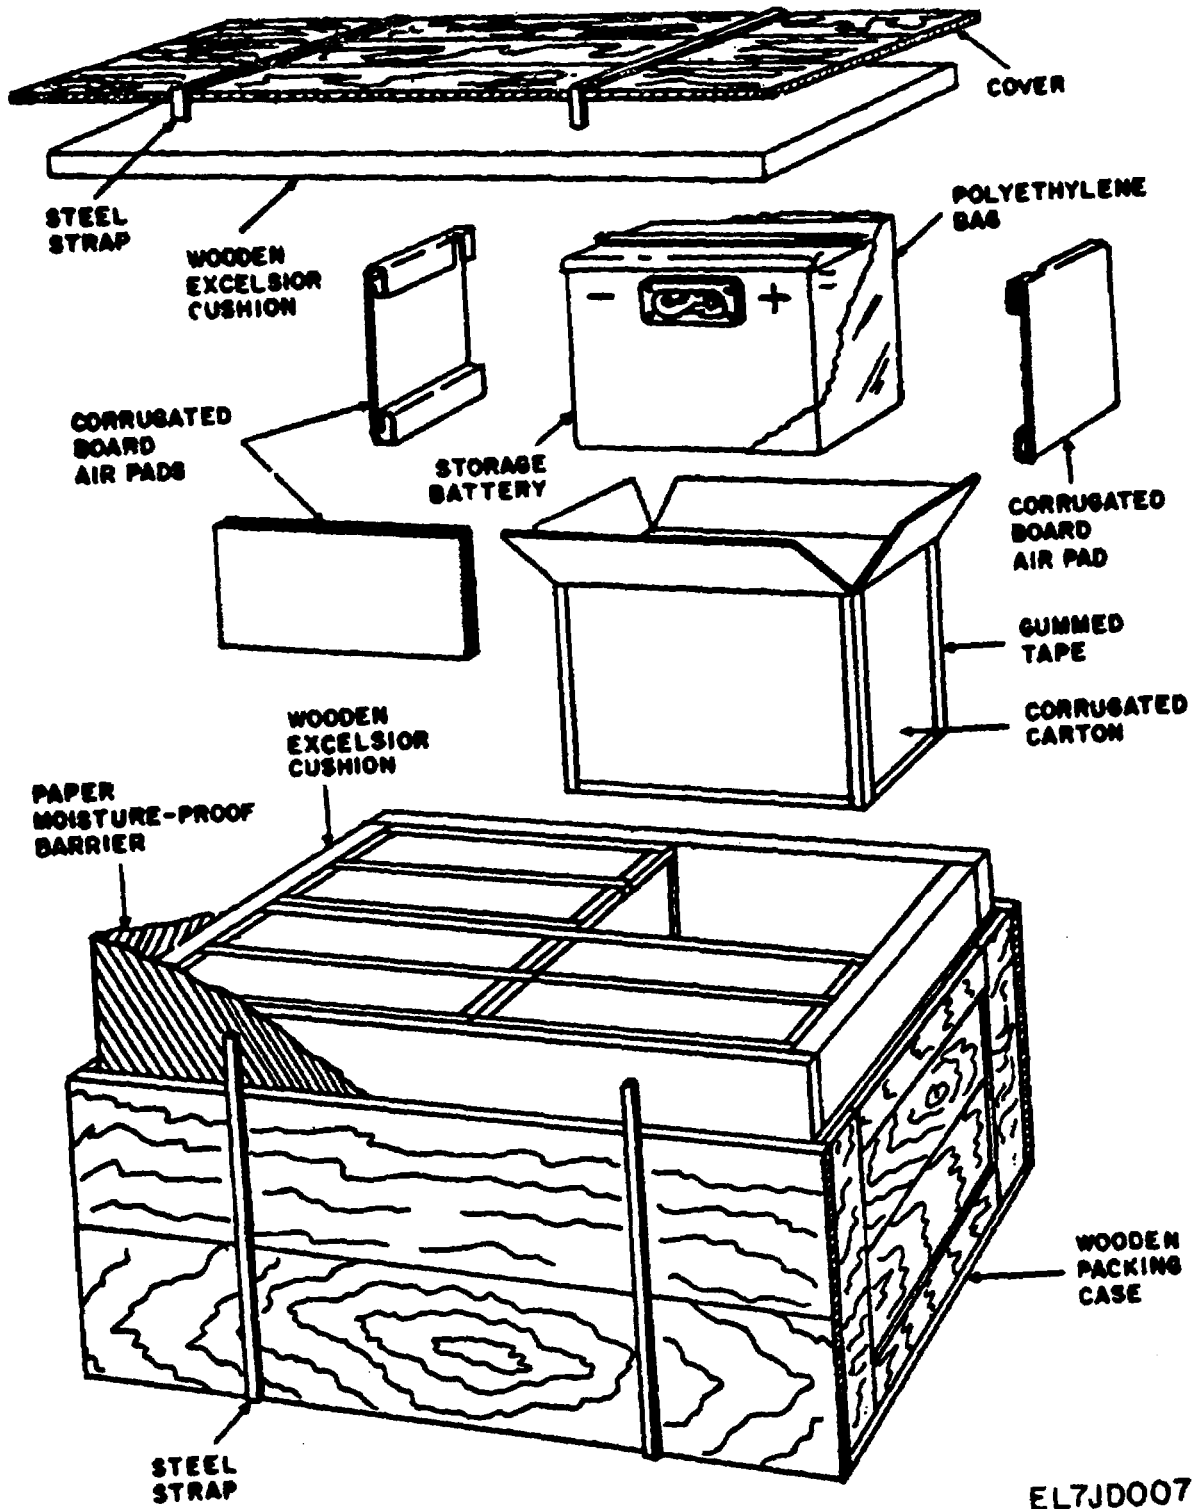

Figure 3-1. Typical Nickel-Cadmium Battery Packaging (Multiple).
a. When packed for domestic shipment, the batteries are packed several to a large wooden case (fig. 3-1) (each enclosed in a separate container).